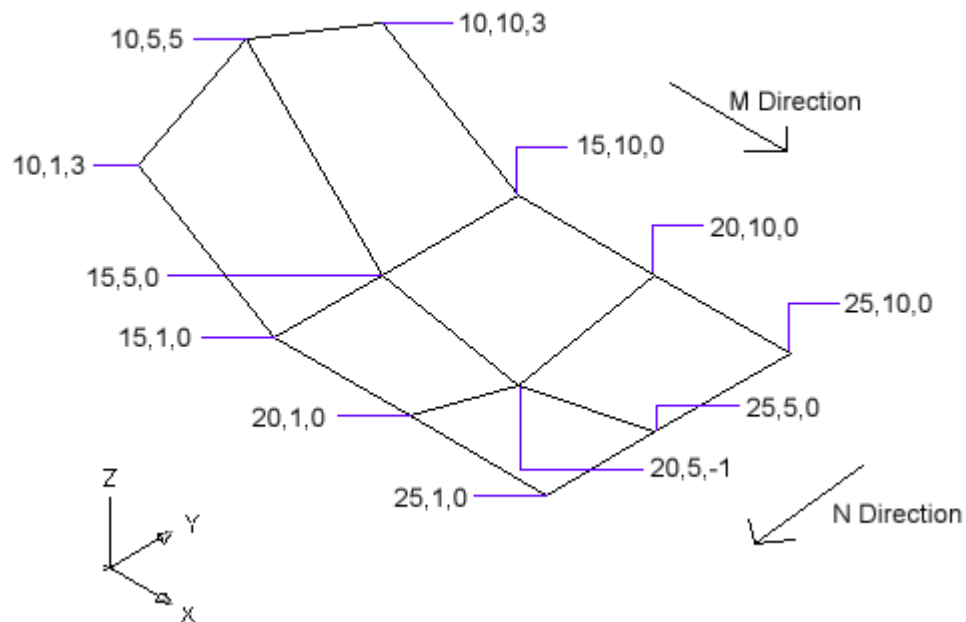

Figure 2.2.6
**Step 2:** Enter the Number of vertices in the **M** direction. Refer to **Figure 2.2.6**.